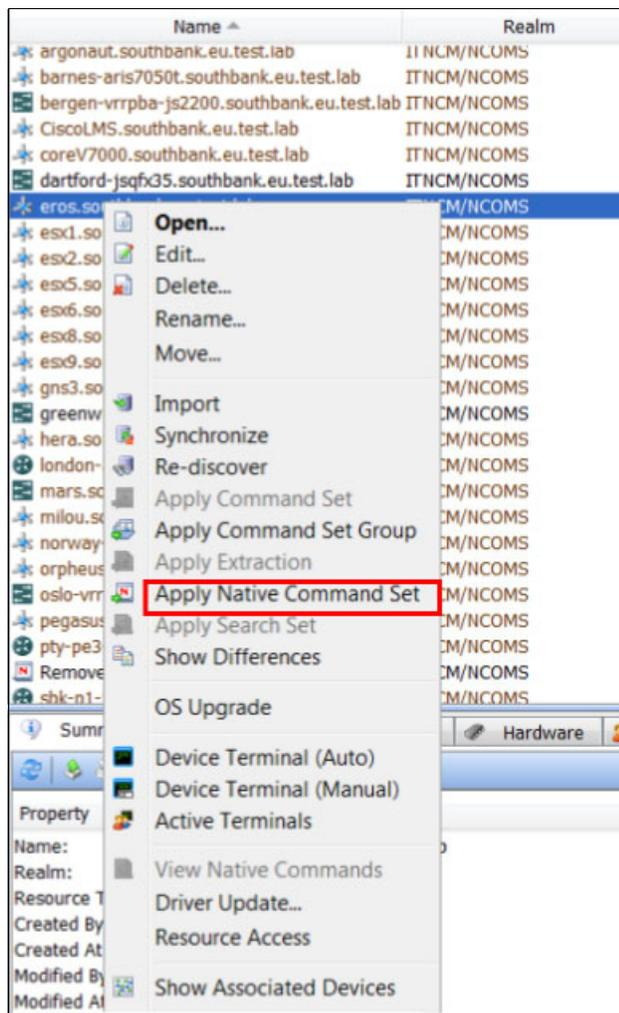

Figure 2-39 Applying a manual change in Netcool Configuration Manager
14. Brock verifies that the TCP port 53 is blocked on the server firewall. Then, by using the Netcool Configuration Manager, he starts a manual Change to reopen the port (see Figure 2-39).